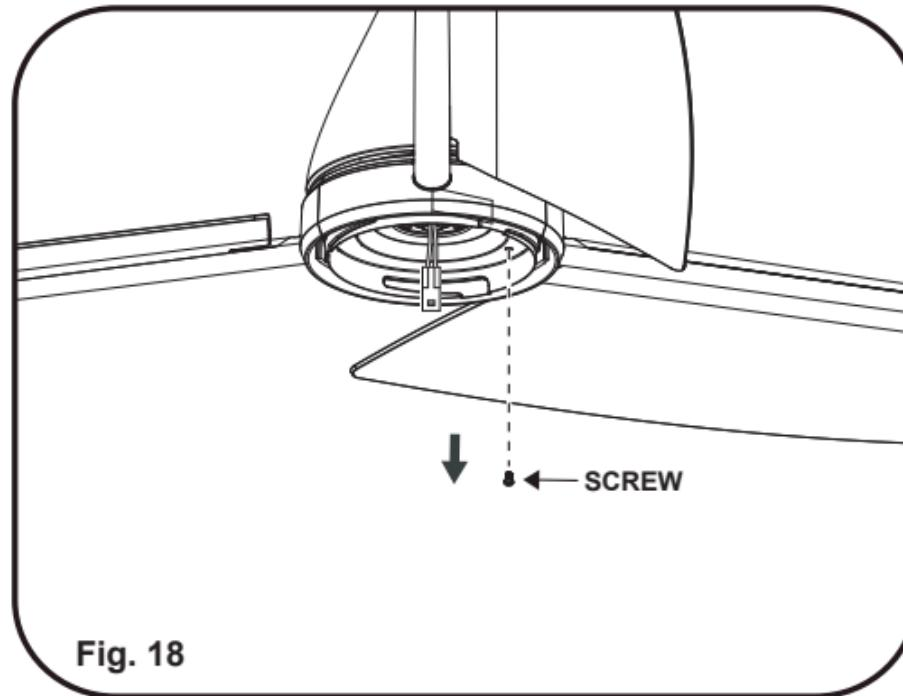

Fig. 18
Step 1. Remove 1 screw from the light kit plate. (Fig. 18)